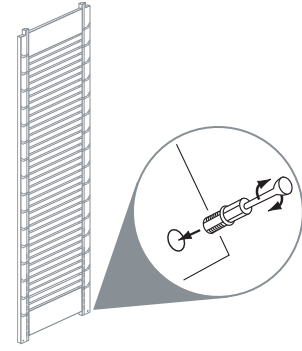

FIG. 3.1
2. Install cam bolt into locations at bottom of Tower sides until snug. (Fig 3.1)